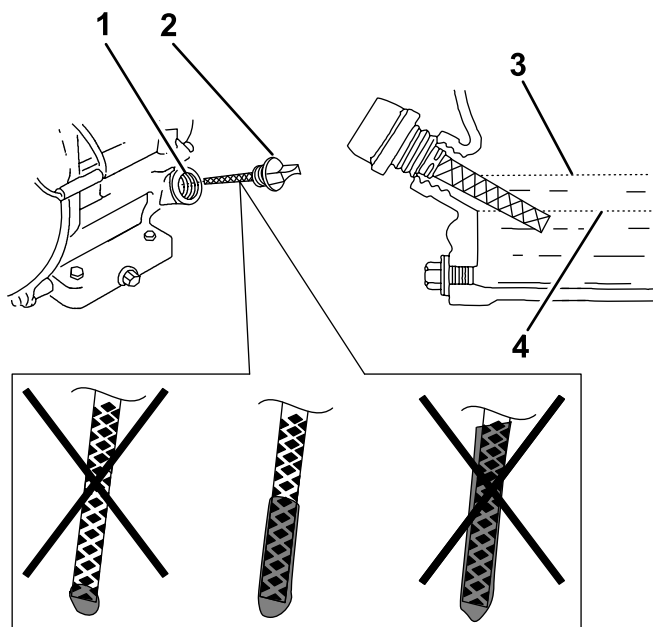

Figure 33
4. Remove the oil-fill cap/dipstick and wipe the end clean (Figure 33).
5. Slide the dipstick fully into the fill port without threading it into the port (Figure 33).
6. Remove the dipstick and look at the end. If the engine oil level is low, slowly pour only enough oil into the fill port to raise the level to the Full mark on the dipstick (Figure 33).
7. Replace and secure the dipstick (Figure 33).